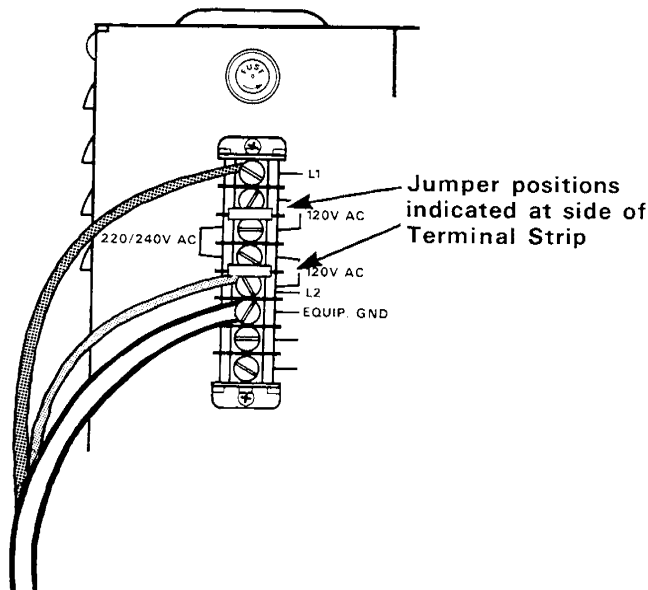

Figure 3.22 – Power Supply Input Connections
**3.2.3 Input Power Connection –** AC line connection is made to the terminal strip on the front face of the System Power Supply. (Refer to Figure 3.22.) Before making this connection, however, the user must make certain that the Supply is appropriately jumpered for the supplied line voltage.